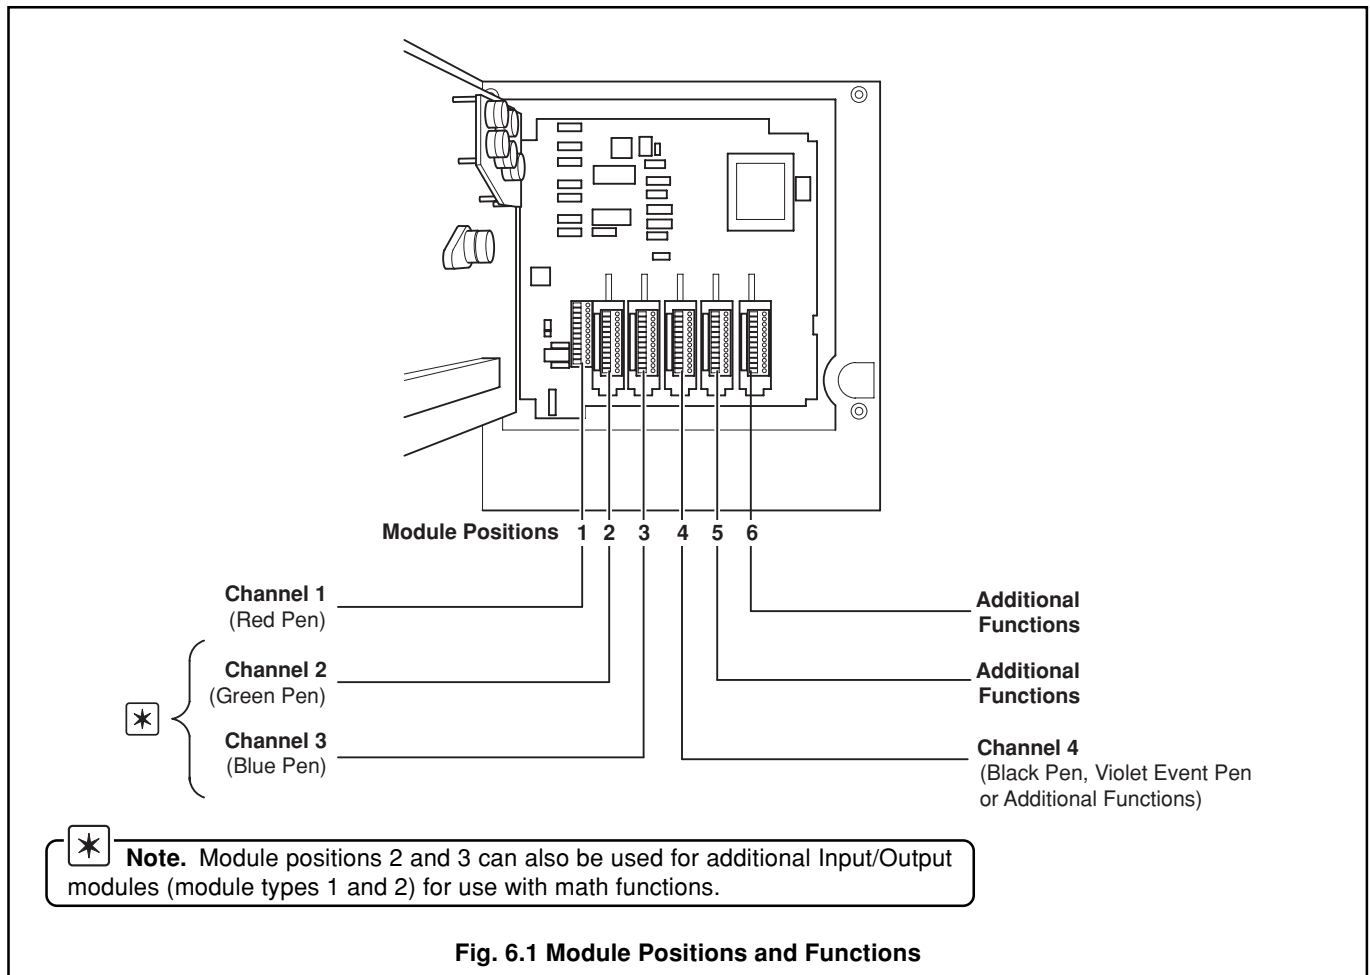

Fig. 6.1 Module Positions and Functions
- Identify the module position – see Fig. 6.1.